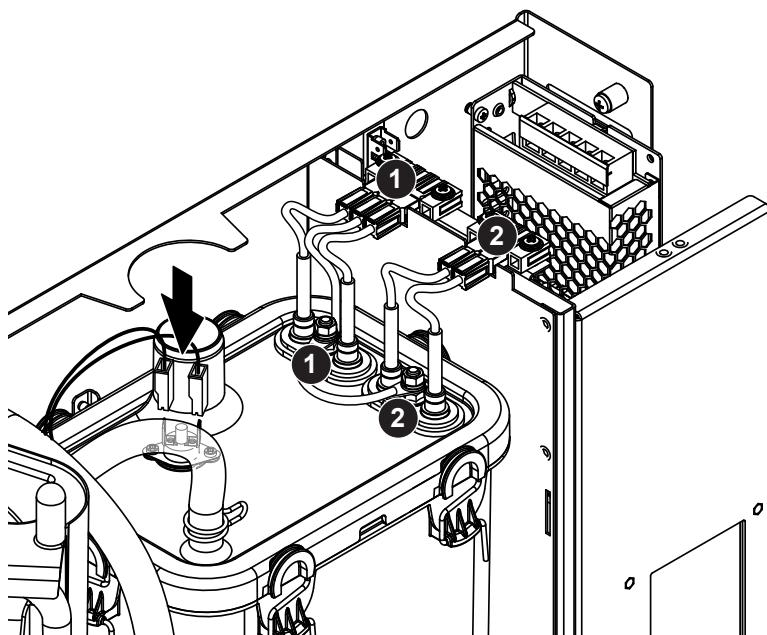

Fig. 5: Connecting the heating cables and the connecting cable of the over temperature switch
9. Connect heating cable plugs into the corresponding sockets (see Fig. 5).